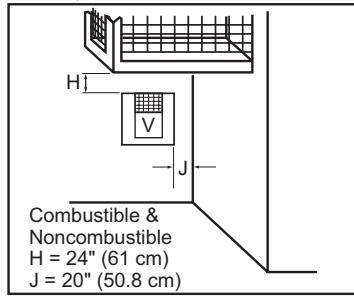

Figure 8 - Minimum Clearances for Termination Cap
- When locating termination cap, it is important to observe the minimum clearances shown in **Figure 8, Page 11**.
- Continue to add pipe sections until height of vent cap meets the minimum building code requirements described in **Figure 8 on Page 11**.